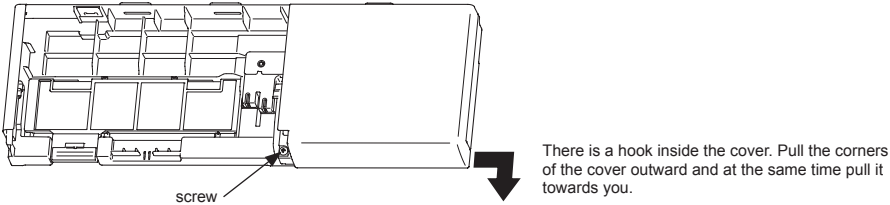

Fig. 8
6) Remove the screw to remove the COVER\_R. (Fig. 8)